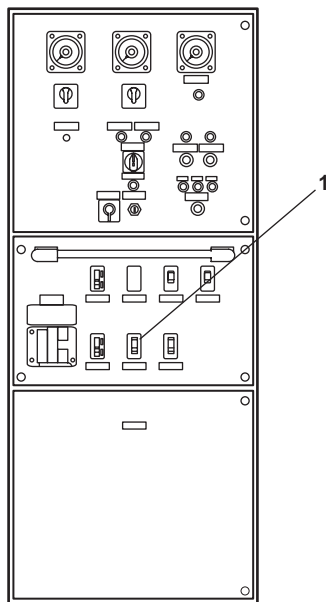

Figure 10. EDG Emergency Switchboard
- b. At the EDG emergency switchboard, set the BILGE PUMP #1 circuit breaker (figure 10, item 1) to OFF.